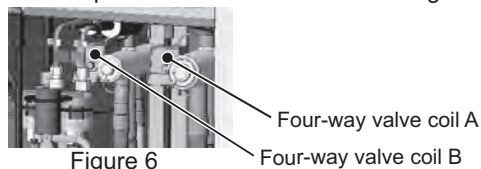

Figure 6
(6) Remove the plastic cover and the coil holding the four-way valve. (See Figure 6.)